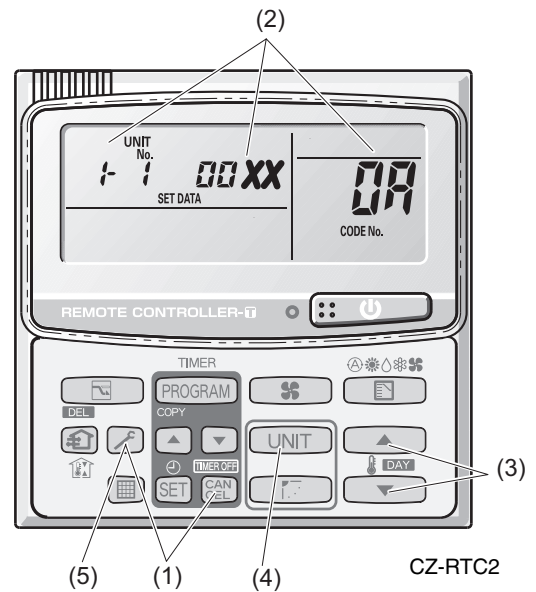

Fig.2
* If monitor mode is selected during normal operation, the only parts of the LCD that change are those shown in the figure 2.